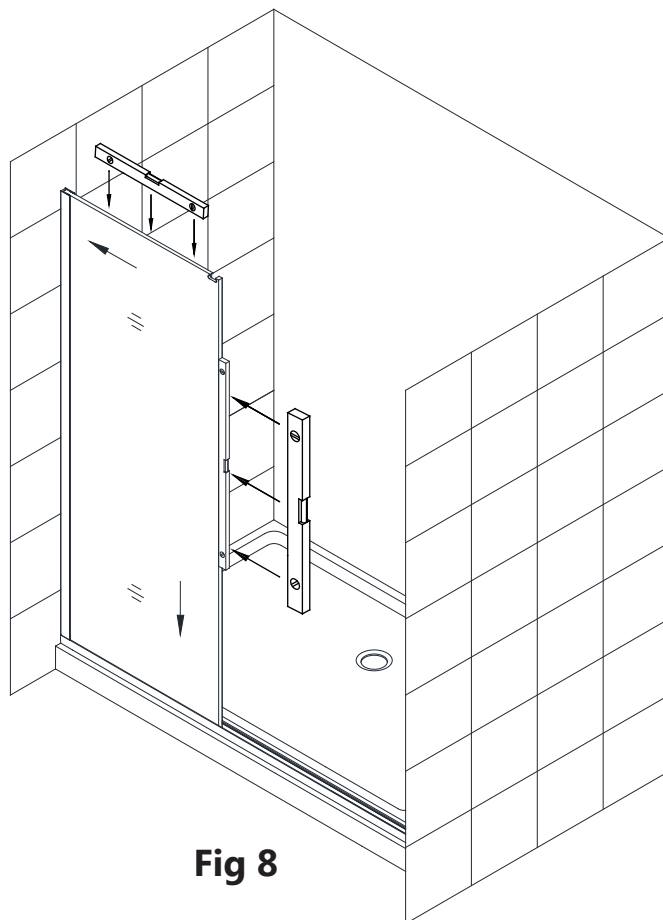

Fig 8
8. Dry fit the Stationary Panel Glass (#01) into the Wall profile/U-Channel (#17) and Bottom Guide Rail (#03). (Fig 8)